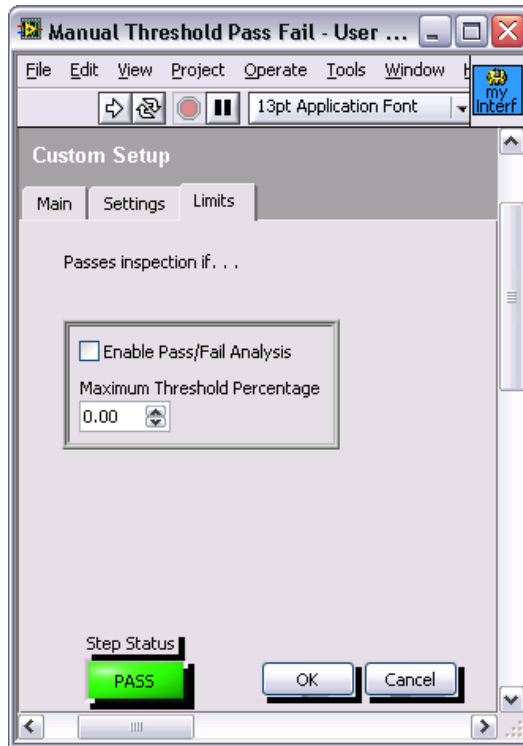

Figure 4-6. Resizing the Pass/Fail Condition Cluster
- The Pass/Fail Condition cluster contains controls that the user should never delete. Resize the Pass/Fail Condition cluster to hide the Value 2 and Function controls, as illustrated in Figure 4-6.